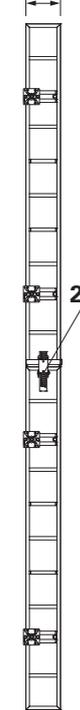

Fig. A13.01
With one or more horizontal and vertical panel joints, always use the DRS Alignment Coupler (20). (Fig. A13.01 – A13.05)